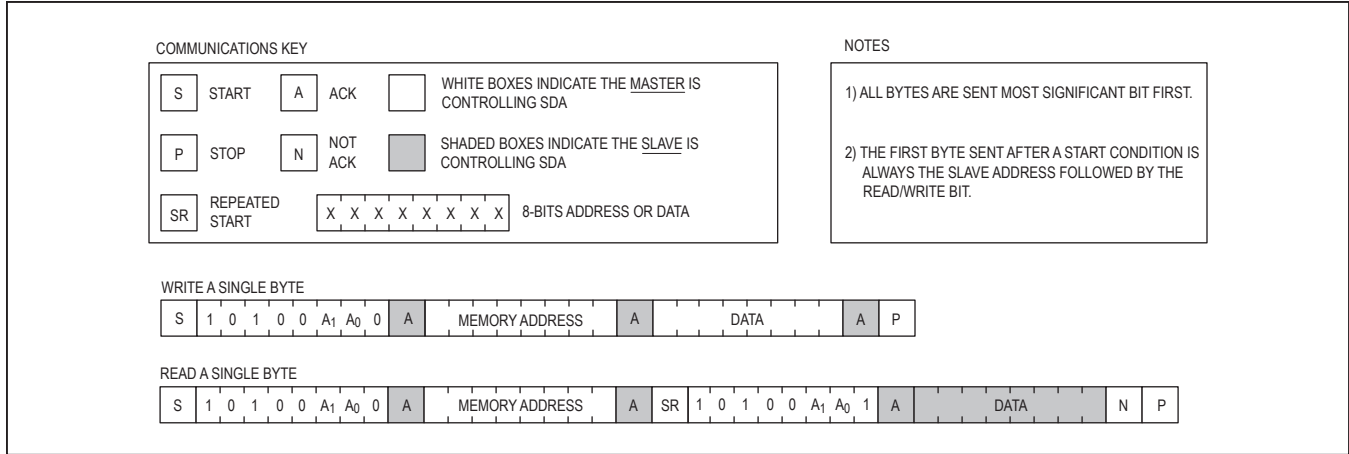

Figure 11. I2C Communications Examples
**Writing a Data Byte to a Slave:** The master must generate a START condition, write the slave address byte (R/W = 0), write the memory address, write the byte of data, and generate a STOP condition. Remember the master must read the slave's acknowledgement during all byte write operations. See Figure 11 for more detail.
**Reading a Data Byte from a Slave:** To read a single byte from the slave the master generates a START condition, writes the slave address byte with R/W = 0, writes the memory address, generates a repeated START condition, writes the slave address with R/W = 1, reads the data byte with a NACK to indicate the end of the transfer, and generates a STOP condition. See Figure 11 for more detail.